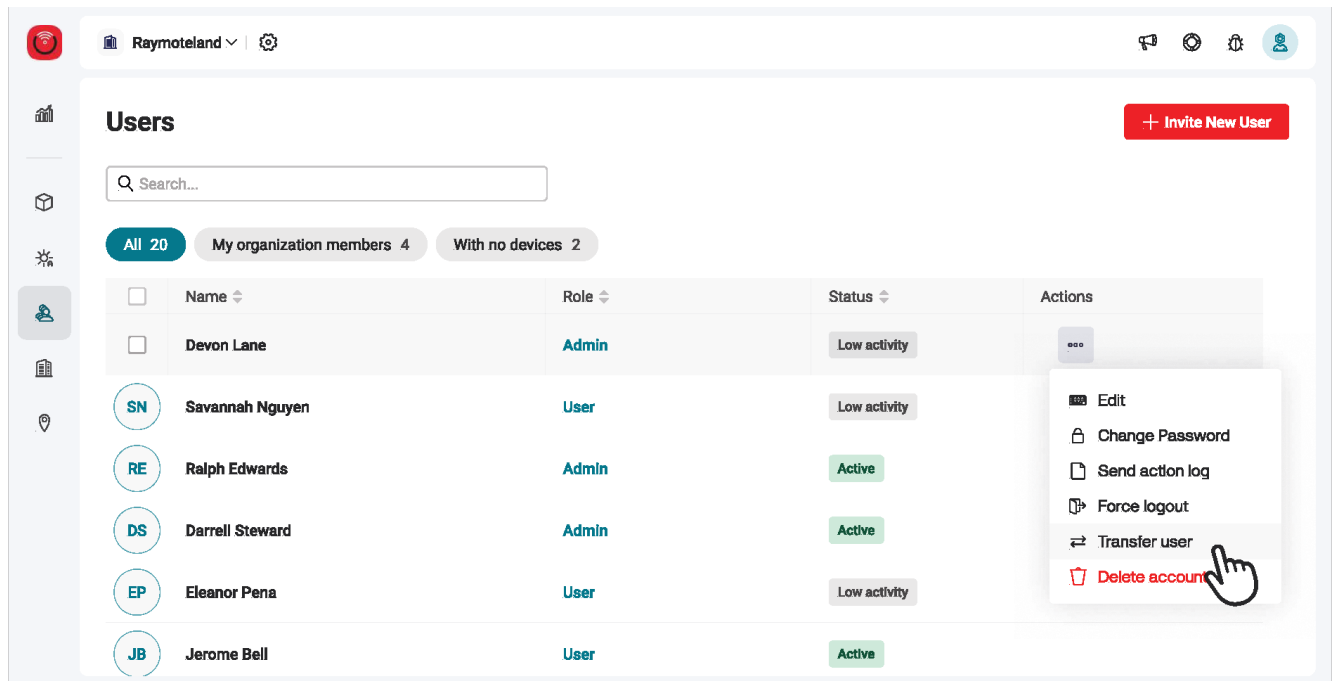

Figure 60. User Setting Menu
2. Click on the “Settings” option (gear icon) located at the top bar and select “Users” on the left menu. See **Figure 60**.